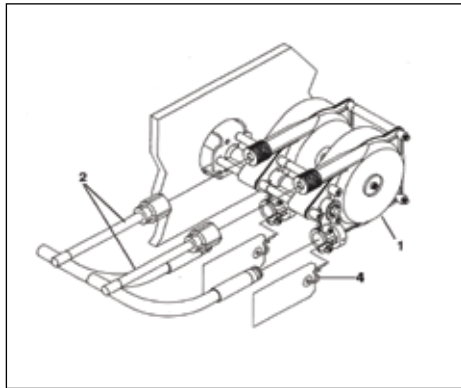

Figure 5.
STEP 3. Feed the cable ends into the **LOWER** helm entry spigots, keeping the conduit fittings aligned, until they contact the internal gears. Then turn the steering wheel to draw the cables fully into the helm (see Figure 5). Continue turning wheel until end fittings of cables are entered into the entry spigots, and wheel cannot be turned further. During this you should hear a click as the locking mechanism engages. Turn steering wheel fully in the other direction until it cannot be turned any further. Check that cable end fittings are retained inside the entry spigot.
STEP 5. Feed the Spent Travel Tubes (item 2, Fig. 5) over the exposed cable ends and thread retaining nuts onto spigots. Tighten nuts hand tight.